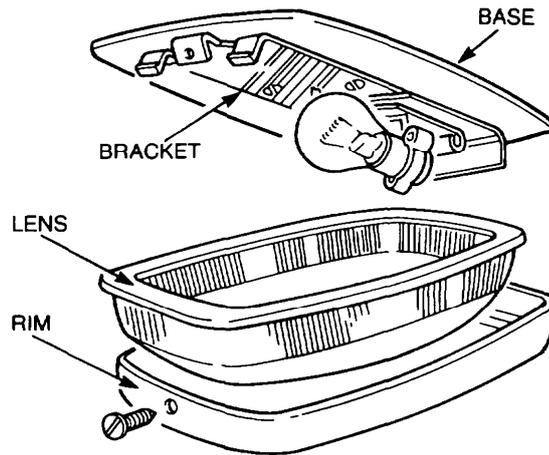

Figure 189 Cab Dome Light Exploded View
- a. Remove the screw retaining the lens and rim to the light unit (Figure 189).